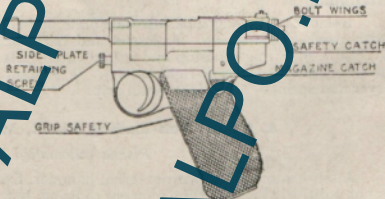

FIG. 2.—9 mm. S.L. PISTOL 910
3. 9 mm. Self-loading Pistol, Mod. 910—Glisenti. (See Fig. 2)